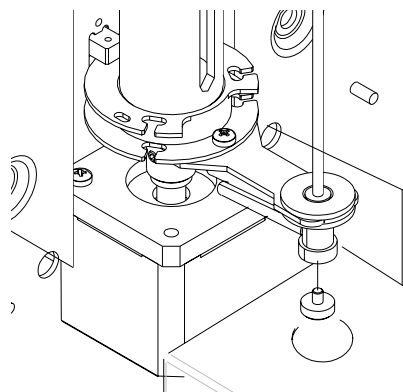

Figure 8-34 Using localizer
7. Remove the probe from the wipe block and insert the localizer into the wipe block from the bottom, as Figure 8-34 shows.